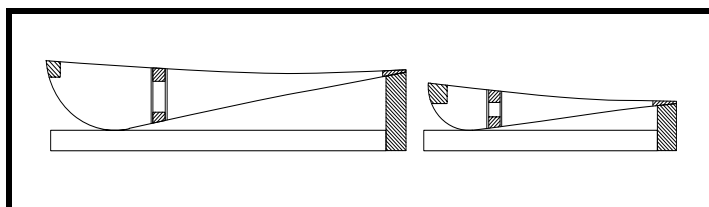

Figure 13
- ❑ Turn the aileron/flap assembly over and support the trailing edge with a long straight board as shown in Figure 13. The trailing edge strip can be closer to the table than shown and the long straight board need only keep the trailing edge in rough alignment. You don't have to hold the aileron/flap assembly in absolute precise alignment during the float sanding of the bottom. (Another method is to use a one-by-two board supported by shims. The advantage of this method is that the trailing edge is easily clamped to the board, which can be screwed to the shims which can be screwed in place as well. This will help to keep the aileron/flap assembly from sliding around during float sanding, but the clamps must be removed during the sanding of the trailing edge—but you can work on a short section at a time and leave the rest in clamps.)